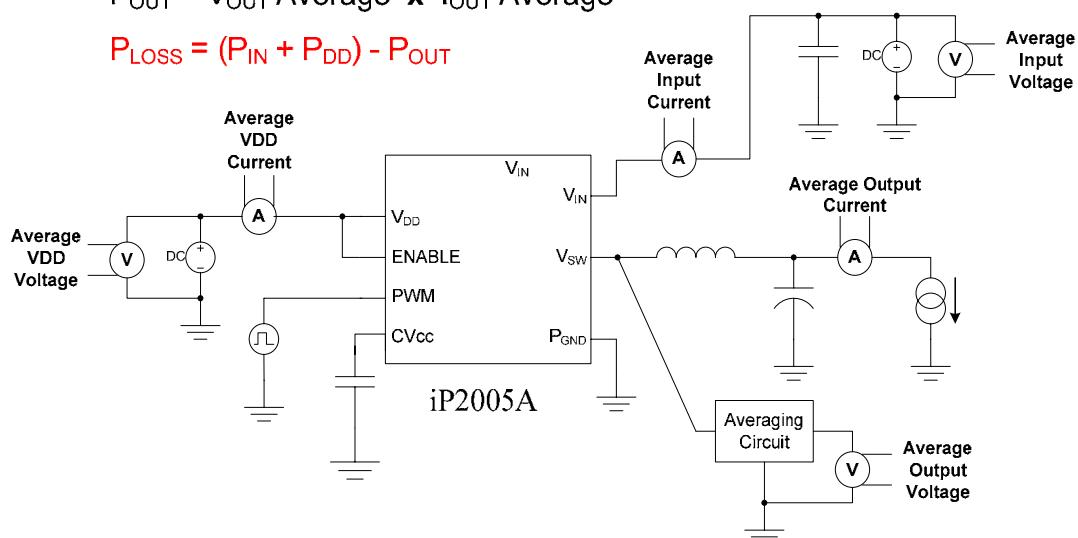

Figure 8 Power Loss Test Circuit
3. Measurement made with six 10 μF (TDK C3225X5R1C106KT or equivalent) ceramic capacitors placed across VIN to PGND pins (see Figure 8)